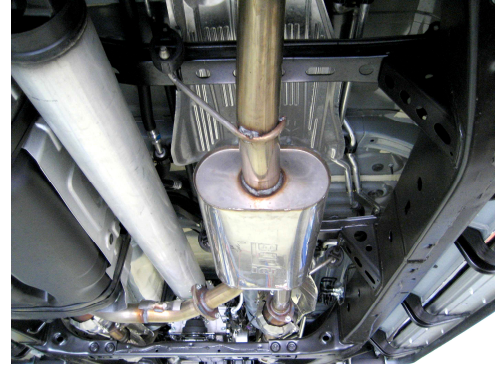

Figure 4
1. Using the original hardware, place the front muffler assembly into position as shown in figure 4 making sure to install hangers into the rubber isolators. Hand tighten the hardware for now.